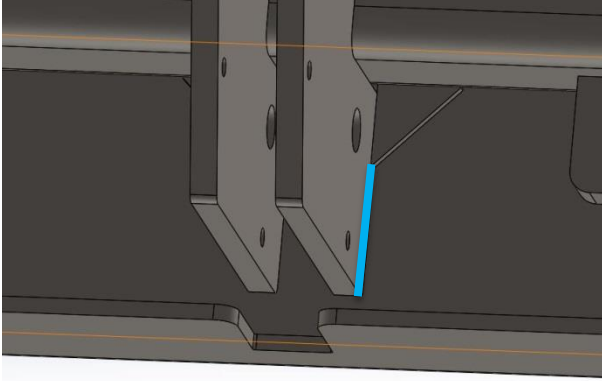

Figure 6
5. Weld the cover plate to the linkage plates at the location shown in blue, Figure 6 and 7